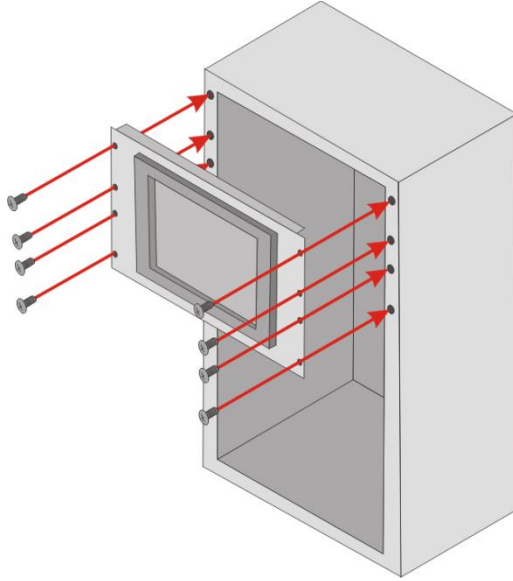

Figure 3-22: Install into a Rack/Cabinet
Step 4: Slide the LCD monitor with the attached rack/cabinet bracket into a rack or cabinet (**Figure 3-22**).
Step 5: Once the LCD monitor with the attached rack/cabinet bracket has been properly inserted into the rack or cabinet, secure the front of the rack/cabinet bracket to the front of the rack or cabinet (**Figure 3-22**).